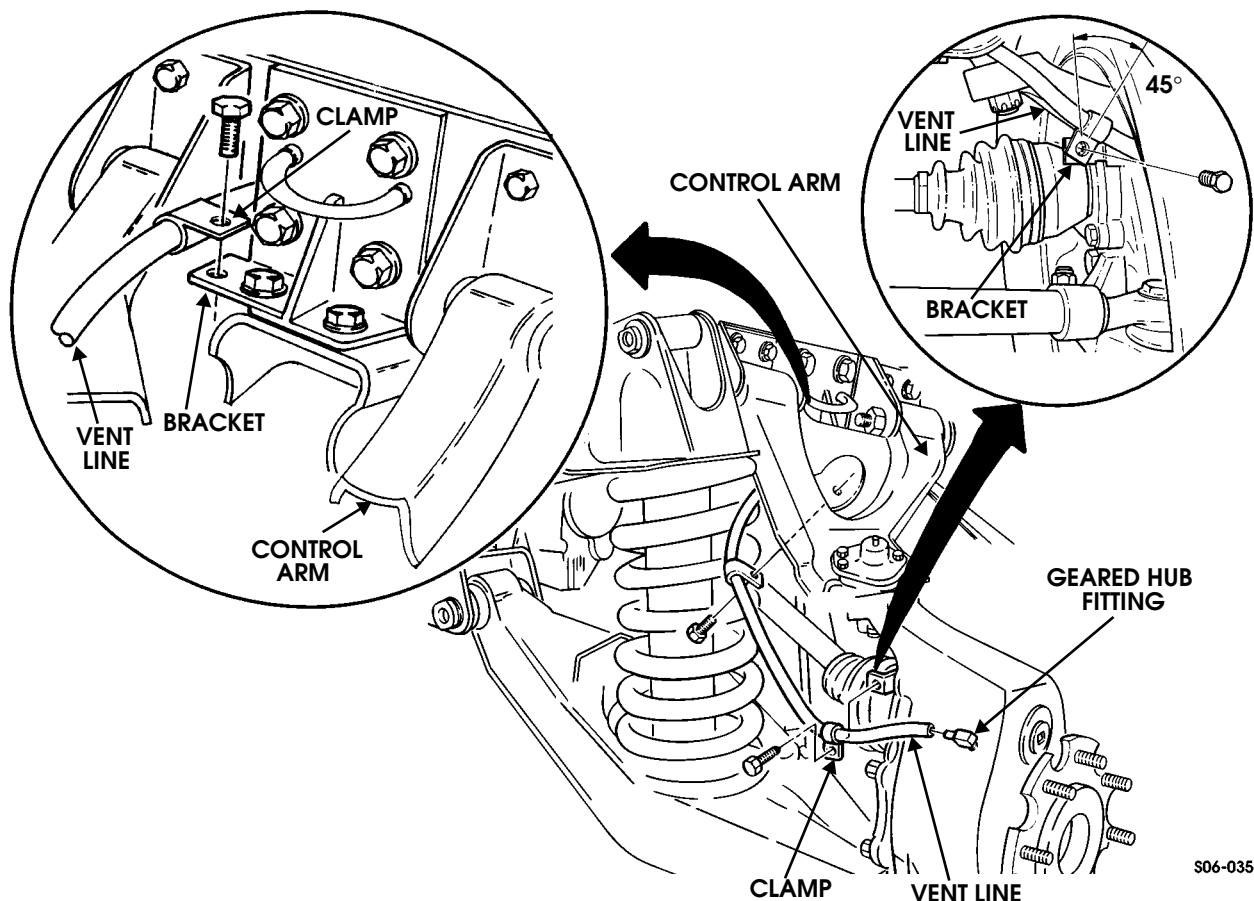

Figure 9-49: Geared Hub Vent Line Positioning
1. Disconnect vent line from geared hub fitting (Figure 9-49).
2. Secure vent line to bracket with clamp and bolt (Figure 9-49).
4. Secure vent line to control arm with clamp and bolt (Figure 9-49).